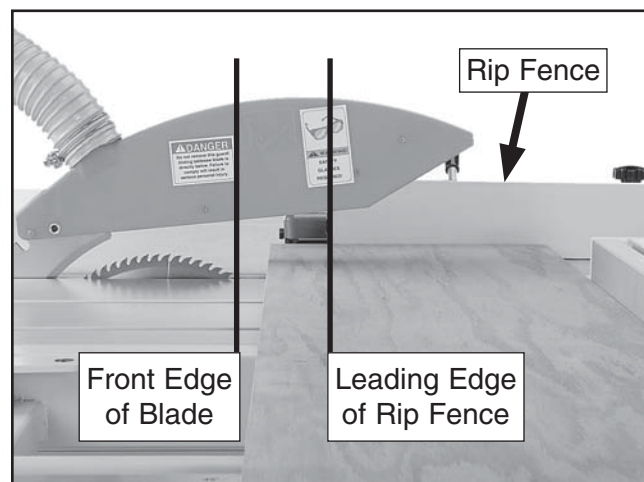

Figure 84. Correct rip fence position when using it as a cut-off gauge.
5. Slide the leading end of the rip fence behind the front edge of the blade as shown in **Figure 84**. (**This step is critical to reduce the risk of blade binding and kickback.**)